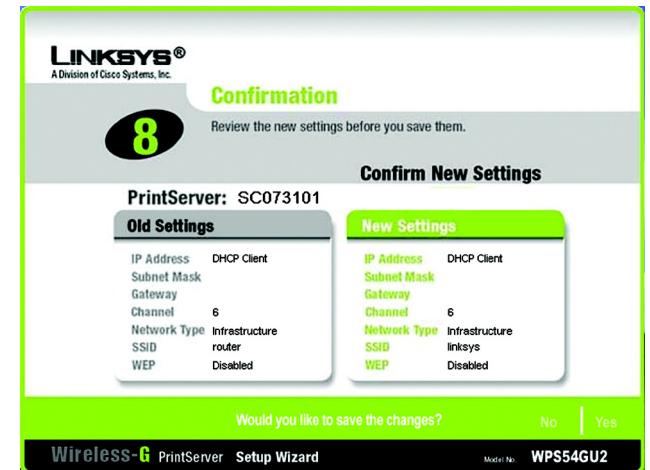

Figure 4-10: Confirmation
11. The *Confirmation* screen will appear. See Figure 4-10. Your old and new settings will be displayed. If you want to make a change, click **No** and you will exit the Setup Wizard; you will have to start the Setup Wizard again. If the settings are correct and you want to save the changes, click **Yes**.